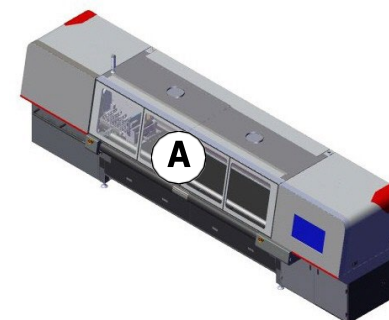

Figure 6-20 Printer Front View
3. Open the printer front door, Figure 6-20 location (A).